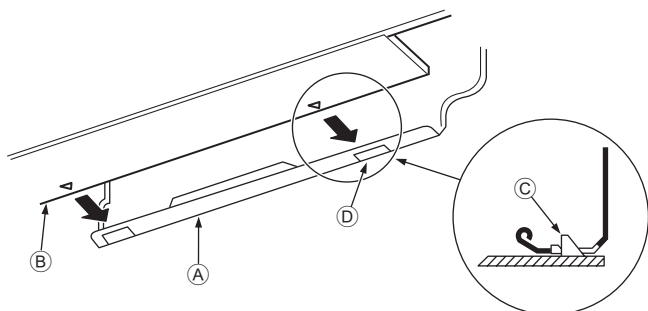

Fig. 3-10
3. While inserting the refrigerant piping and drain hose into the wall penetration hole (penetration sleeve), hang the top of the indoor unit to the mount board ①.
5. Fasten by pushing the bottom part of the indoor unit onto the mount board ①. (Fig. 3-10)
* Check that the knobs on the bottom of the indoor unit are securely hooked into the mount board ①.